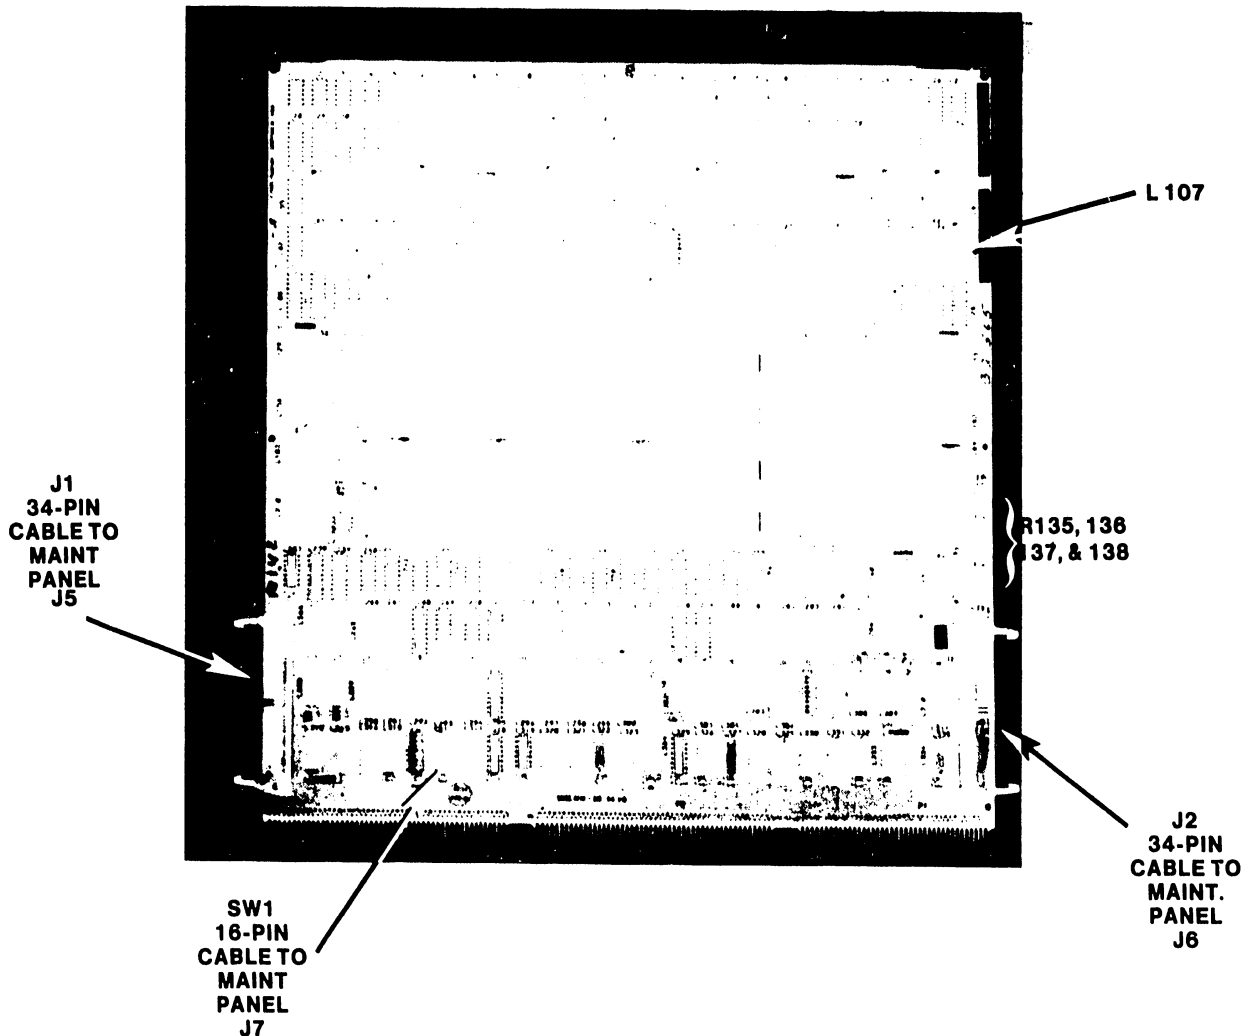

Figure 5-5. 210-7602 Control Memory Board
5. Disconnect the 60-pin connectors from J1 and J2 and the 16-pin ribbon cable from location SW1 of the Control Memory board (figure 5-5).